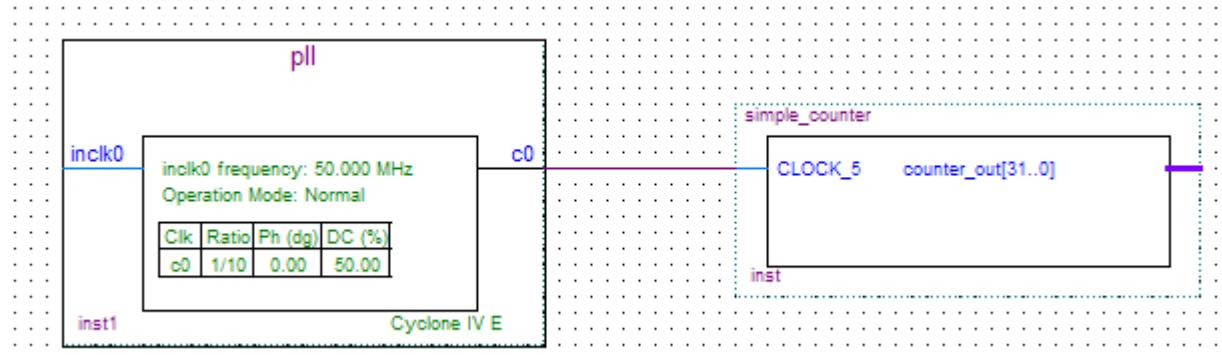

Figure 6-27 Draw a Bus Line connect pll c0 port to simple_counter CLOCK_5 port
- Click and drag a bus line from the **c0** output to the simple_counter clock input. This action ties the pll output to the simple_counter input (see **Figure 6-27**).